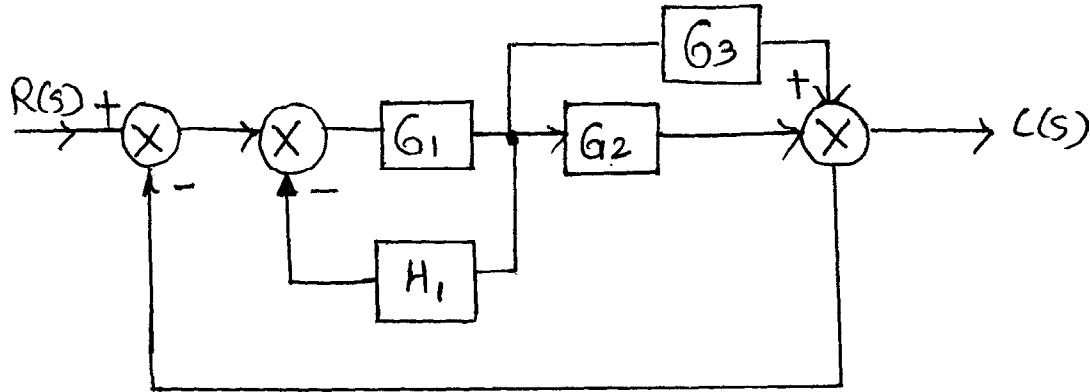

Fig. No. 1
- (ii) Derive the transfer function of the following block diagram. Refer Fig. No. 1.